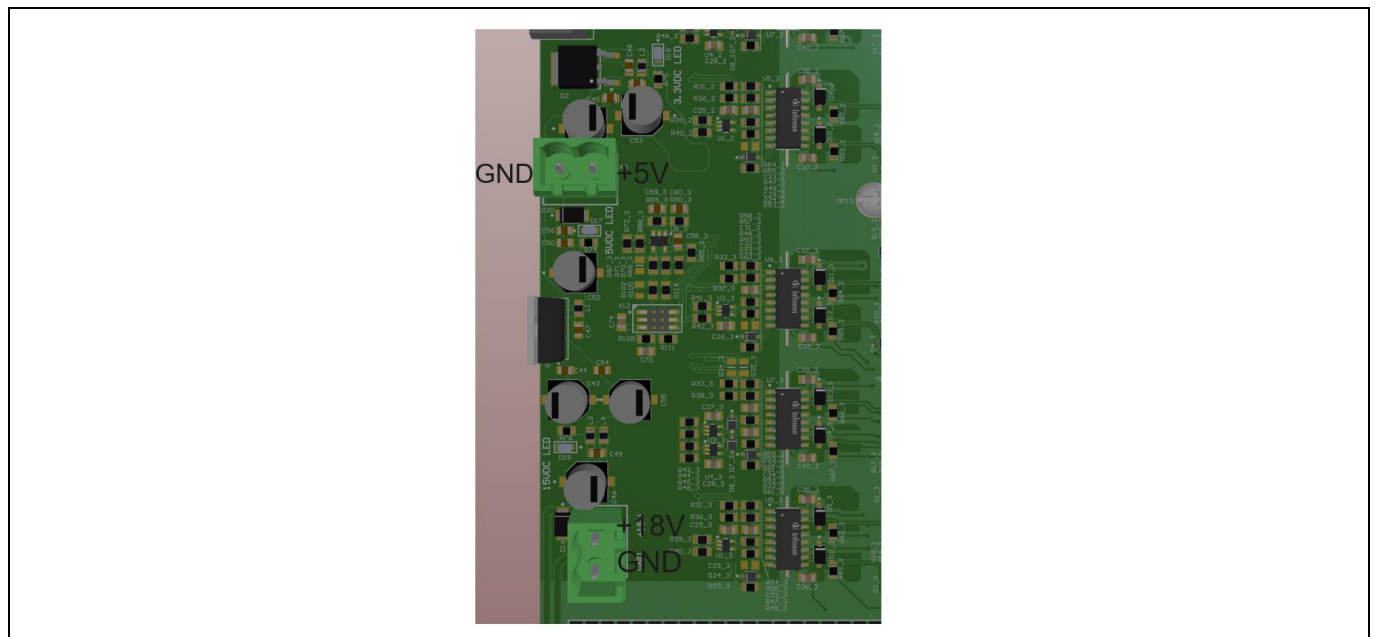

Figure 13 Auxiliary supply connections
- The 5 V G1 linear regulator requires a heatsink to control the temperature but it also can be bypassed by applying 5.1 V to the X6 connector. See Figure 13 for auxiliary supply connections.